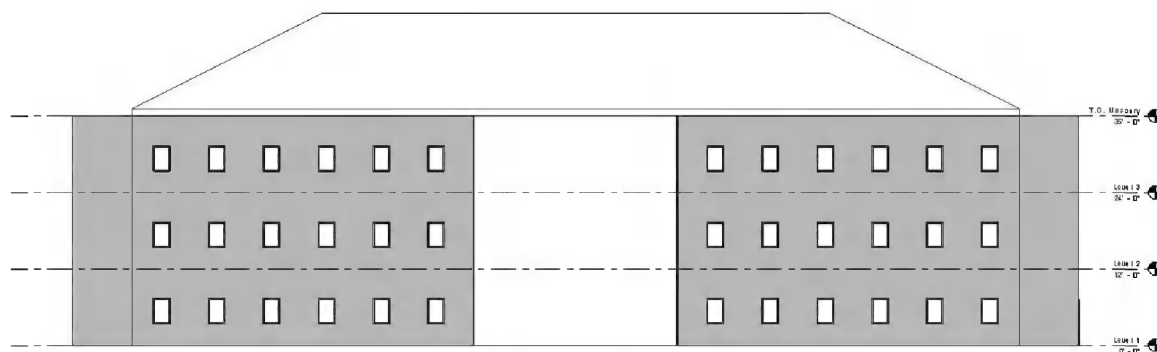

FIGURE 6-1.7 South elevation
- Switch to an elevation view to see the roof, South elevation, shown in Figure 6-1.7.